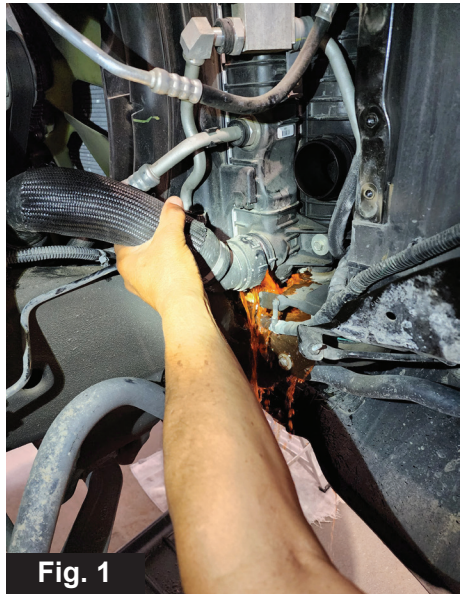

Fig. 1
4. Drain the radiator coolant by disconnecting the lower radiator hose from the factory radiator outlet. To do this, remove the steel clip and disengage the plastic connector. **(Fig. 1)**